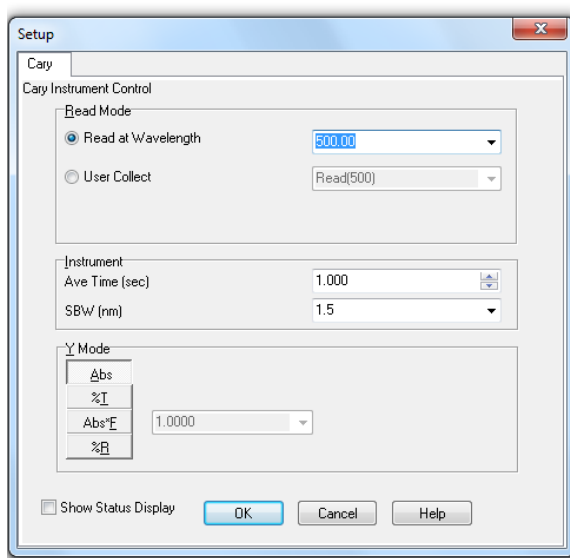

Figure 5. Setup Dialog Box.
1. Click the **Setup** button to display the Setup dialog box (**Figure 5**).